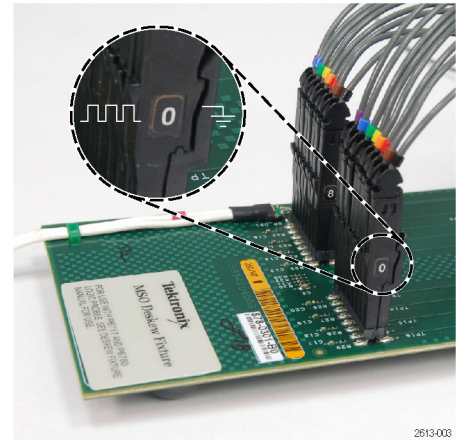

Figure 3: Single-ended probe connections
- You must connect single-ended probes with the signal side of the probe toward the board label. (See Figure 3.)